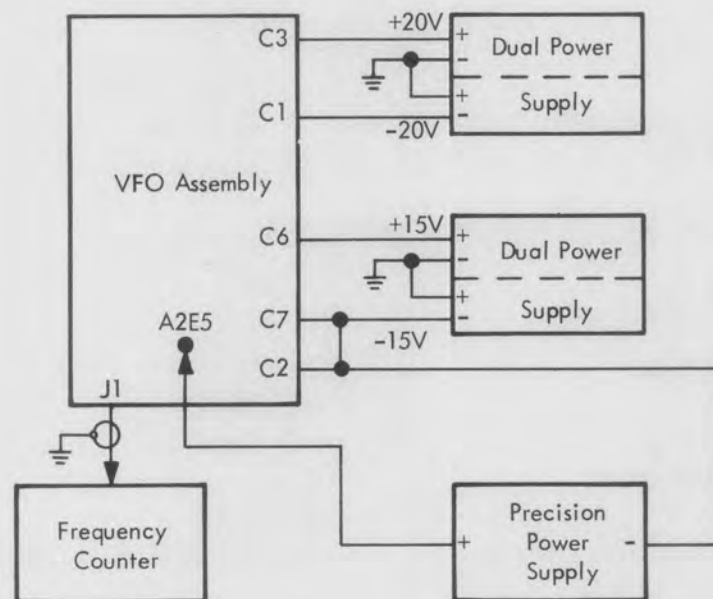

Figure 5-8. Oscillator Alignment
- Connect vfo assembly as shown in figure 5-8. Tack solder the wire to terminal E5 of the shaper/regulator assembly (A9A2). Thread this wire through the hole in the test cover and connect it to the positive terminal of the precision power supply.